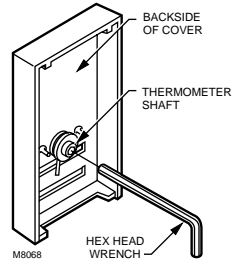

Fig. 8. Adjusting thermometer calibration.
- If the readings are different, insert a hex head wrench into the thermostat shaft and turn it until the thermometers have the same reading. See Fig. 8.